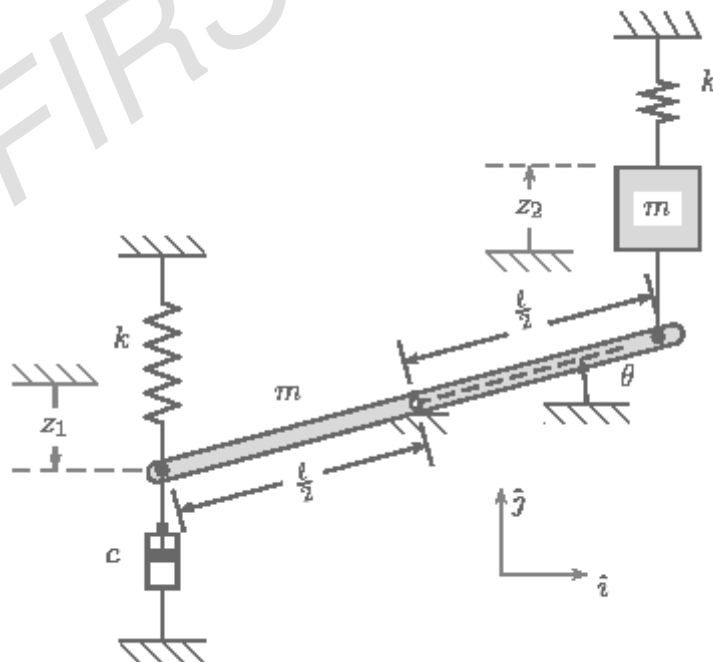

Figure 11:
8. For the mechanical system shown below figure 11, the uniform bar has mass  $m$  and pinned at point O. For the system: